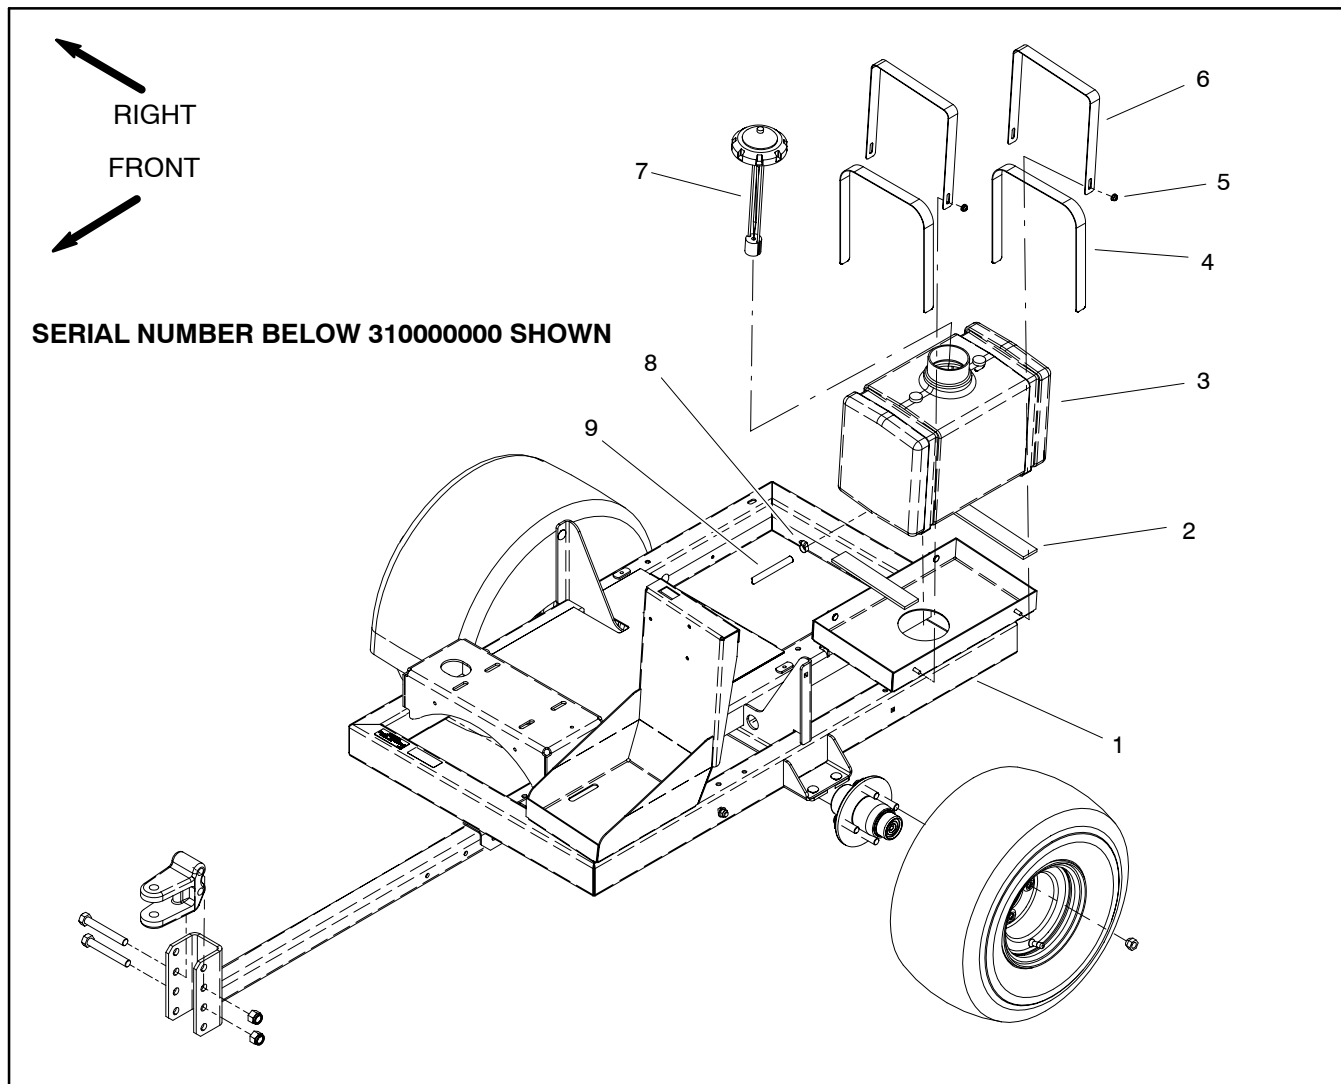

Figure 2
## Fuel Tank Removal (Figs. 2 and 4)
5. Remove fuel tank from machine using Figure 2 or 4 as a guide. Make sure to clean up any spilled fuel.
## Fuel Tank Installation (Figs. 2 and 4)
2. Install fuel tank to machine using Figure 2 or 4 as a guide.